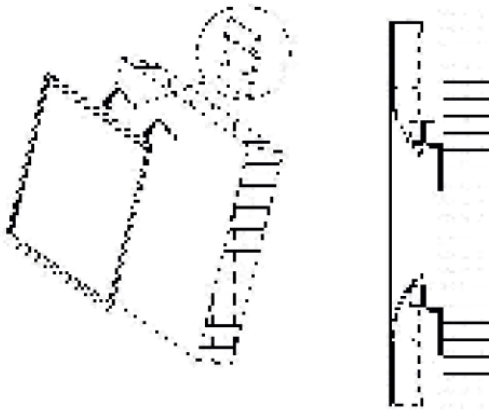

Fig 16.
4. Hang the screen on the mounting brackets according to Fig. 16.